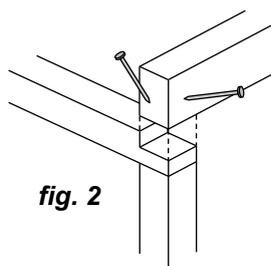

fig. 2
Step 2: Select Back and Front Base Plates 1.140m (Green), Back Top Plate 1.140m (Red) and Front Top Plate (90x45mm). With one End Frame lying on the ground, nail plates to frame, two 75mm nails per joint. Ensure Green joins to Green and Red joins to Red. See (**fig. 2**) for nailing detail on Top Front Plate (90x45mm).